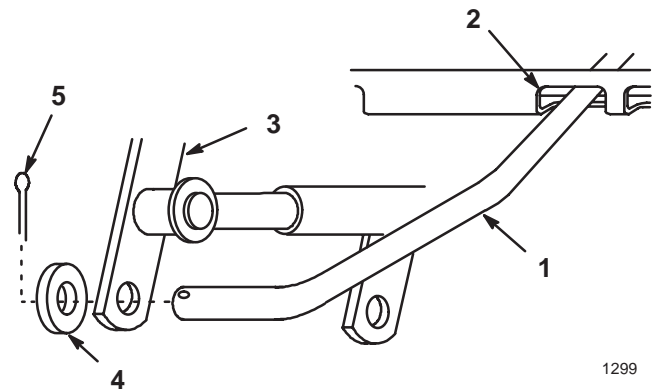

Figure 9
9. Looking under tractor frame on left side, slowly raise and lower attachment lift and slide lift rod into hole in attachment lift. Secure with 3/8 in. washer and 3/4 in. cotter pin. (Fig. 9).